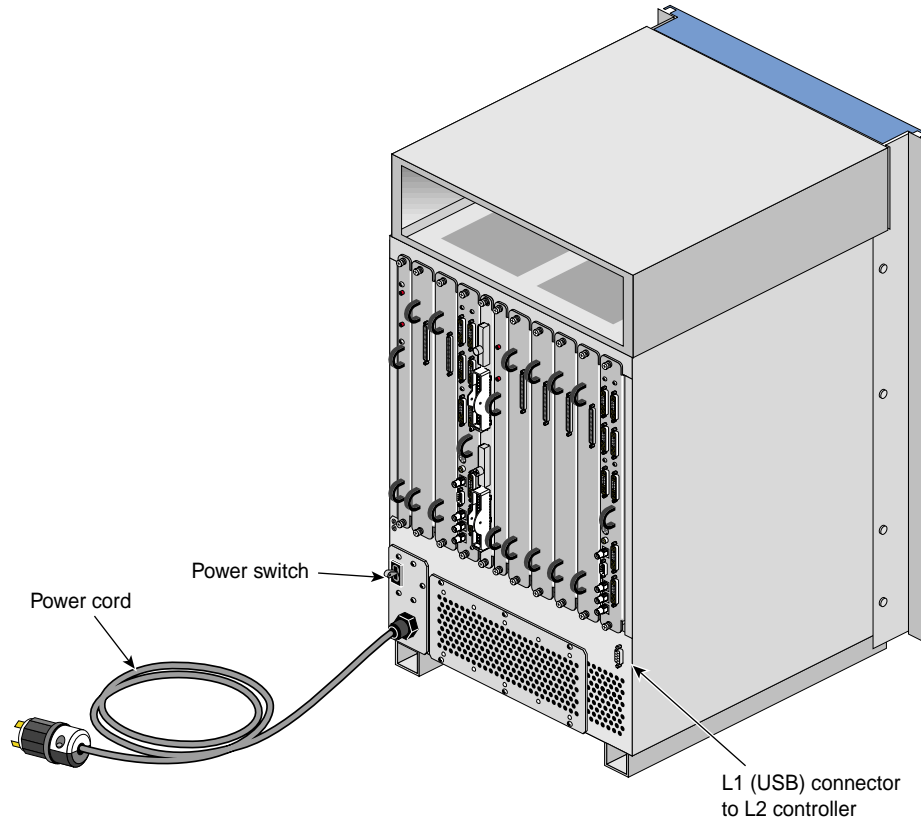

Figure 2-20 InfiniteReality Graphics Module Power Switch
3. Set the power switch(es) of the InfiniteReality graphics module(s) to the On position. Figure 2-20 shows the location of the power switch.